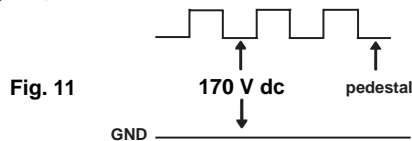

Fig. 11
3. Adjust SBRT, GCUT, BCUT in service mode with an oscilloscope as shown in Fig. 11 so that voltages on the red, green, and blue cathodes are: 170Vdc